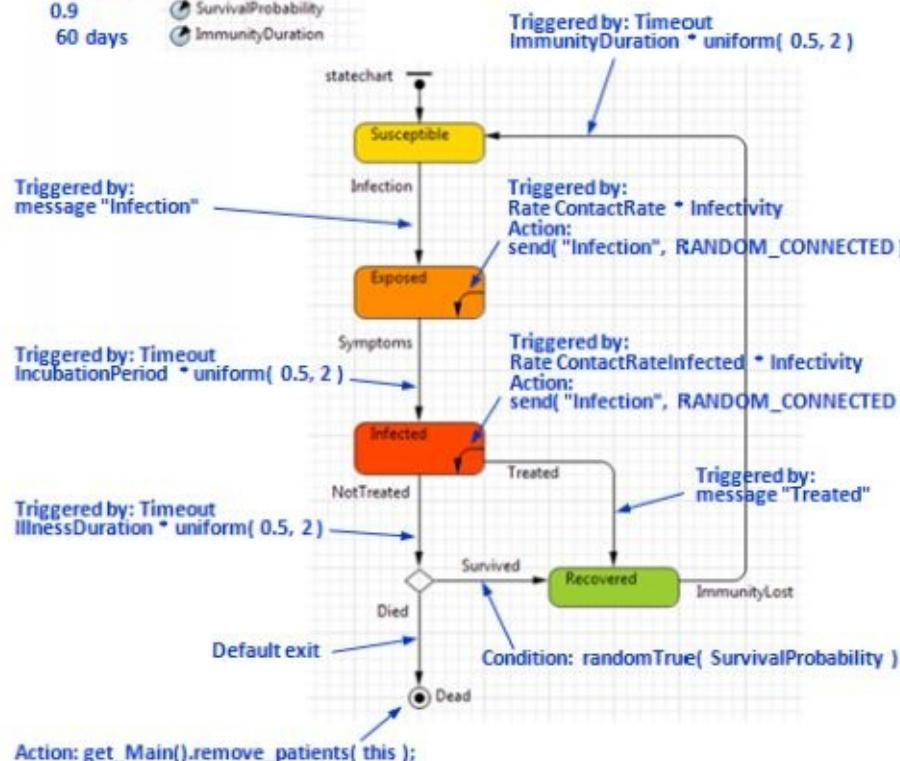

Figure 6.13 The patient behavior statechart
15. Run the model. Now you can see oscillation and the gradual decrease of the total population due to deaths, see Figure 6.13.